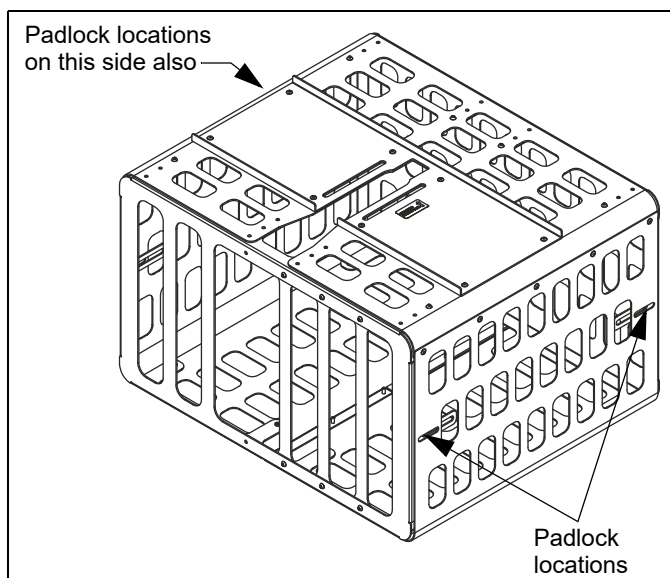

Figure 5
8. For added security, install a padlock (not included) in one of the four locations noted. (See Figure 5)